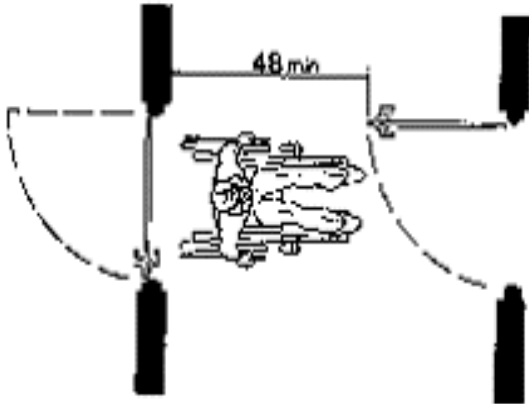

Figure 1: Vestibule clearance
- With door in a 90 degree open position there must a minimum of 32 inches of clear space from the face of the door to the latch side doorstop (exception: doors not requiring passage, such as shallow closets, may have clear openings of 20 inches minimum). (Refer to Figure 1)
- If there are two sets of doors in a series, as in a vestibule, there must be a minimum distance between the doors of 4 feet plus the width of the in-swinging door as well as a 5 foot diameter circle of turning space (Refer to Figure 1).